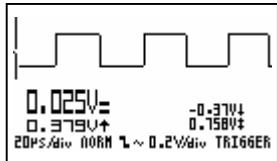

Fig 58
- ‘norm’ = normal triggering (fig. 58)
- ‘norm’ = normale triggering (fig. 58)
- ‘norm’ = synchronisation normale (fig 58)
- ‘norm’ = normale Auslösung (fig 58)